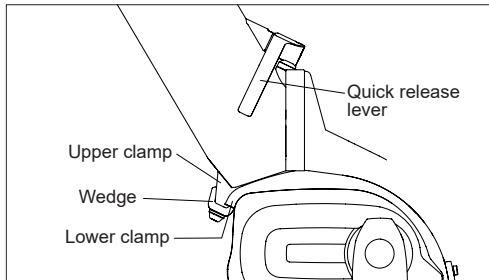

Fig. 40: Parts of the frame quick release.
7. Make sure the Wedge is completely engaged. It should hold the Upper and Lower Clamps together, and the frame should no longer fold (Fig. 40).
1. Make sure your e-bike is in the unfolded position with the frame quick release Wedge properly seated over the Lower Clamp (Fig. 40).